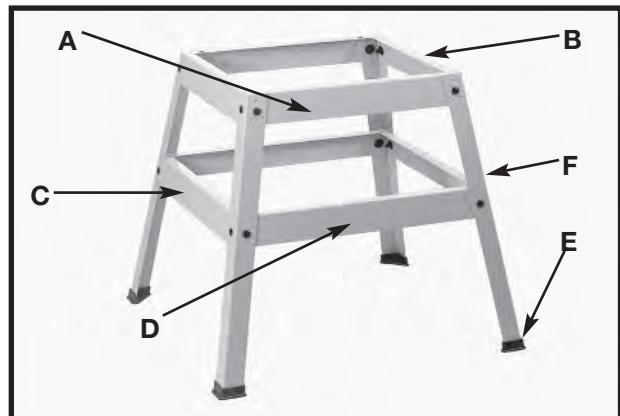

Fig. 4C
- Assemble the stand as shown in Fig. 4C, using 16 M8x1.25x20mm carriage head bolts, 3/8" flat washers and M8x1.25 hex nuts. Align the holes in the stand legs (F) with the holes in the brackets. Insert the carriage head bolt through the hole in the leg and the hole in the bracket, place a flat washer on the carriage head bolt and thread a hex nut onto the carriage head bolt. Repeat this process for the 15 remaining holes in the legs and brackets.
- Attach the rubber feet (E) Fig. 4C to the bottom of each leg (F).